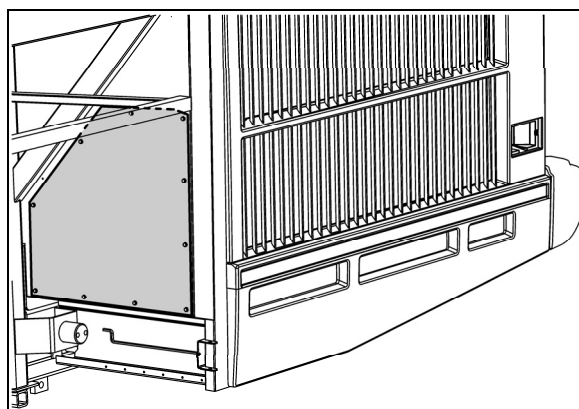

FIGURE 13: ACCESS PANEL BEHIND TAG AXLE WHEEL
7. Unfasten cap screws and remove access panel located behind tag axle L.H. side wheel (refer to figure 13).